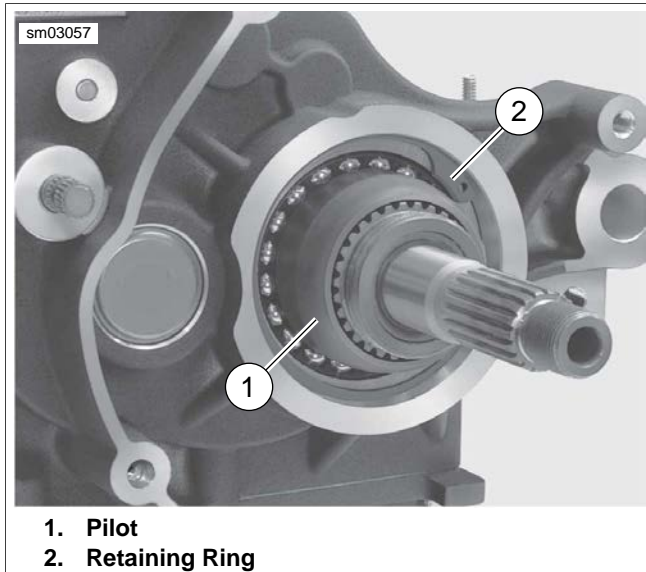

Figure 6-45. Install Pilot
4. See Figure 6-45. Install **new** retaining ring (2).
1. See Figure 6-45. From outside of crankcase, install PILOT (Part No. HD-47856-2) over end of main drive gear bearing inner race.